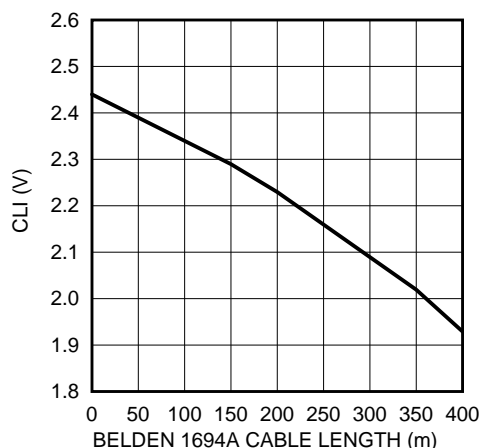

Figure 2. CLI vs. Belden 1694A Cable Length
- (1) Current flow into device pins is defined as positive. Current flow out of device pins is defined as negative. All voltages are stated referenced to $V_{EE} = 0$ Volts.
- (2) Typical values are stated for $V_{CC} = +3.3V$ and $T_A = +25^\circ C$.
- (3) Specification is ensured by characterization.
- (4) The maximum input voltage swing assumes a nonstressing, DC-balance signal; specifically, the SMPTE-recommended color bar test signal. Pathological or other stressing signals may not be used. This specification is for 0m cable only.
- (5) Input signal must be present for valid CLI. Refer to Figure 2 for typical results.
The cable length indicator provides a voltage to indicate the length of cable being equalized. The CLI voltage decreases as the cable length increases. Figure 2 shows the typical CLI voltage vs. Belden 1694A cable length. Note: CLI is only valid when an input signal is present.